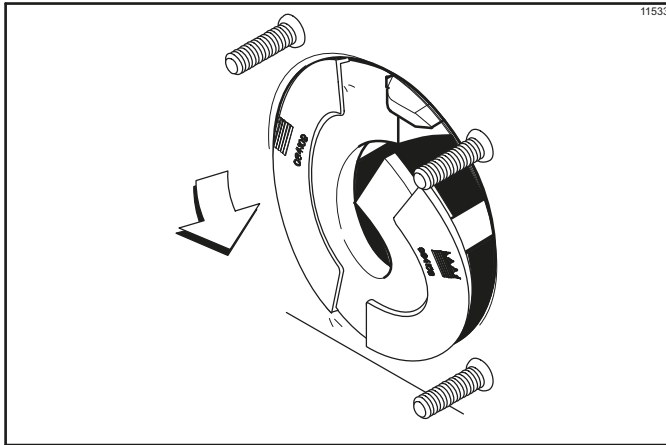

Figure 6-7
11. Slide the beater assembly the rest of the way into the freezing cylinder. Make sure the beater assembly is in position over the driveshaft by turning the beater slightly until the beater is properly seated. When in position, the beater will not protrude beyond the front of the freezing cylinder. (See Figure 6-7.)